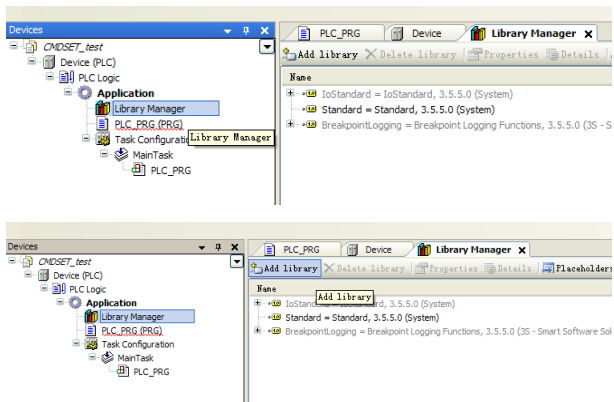

Figure 4-4
3. Double-click **Library Manager**, and then click **Add library**, as shown in Figure 4-4